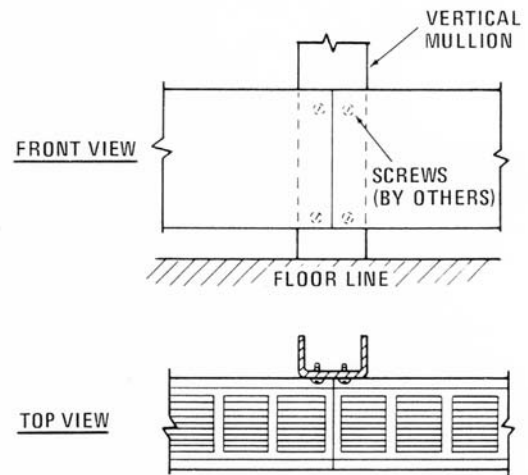

Figure 9.
1. Attach the housing to the mullion using the mounting holes provided in the junction boxes as shown in Figure 9.